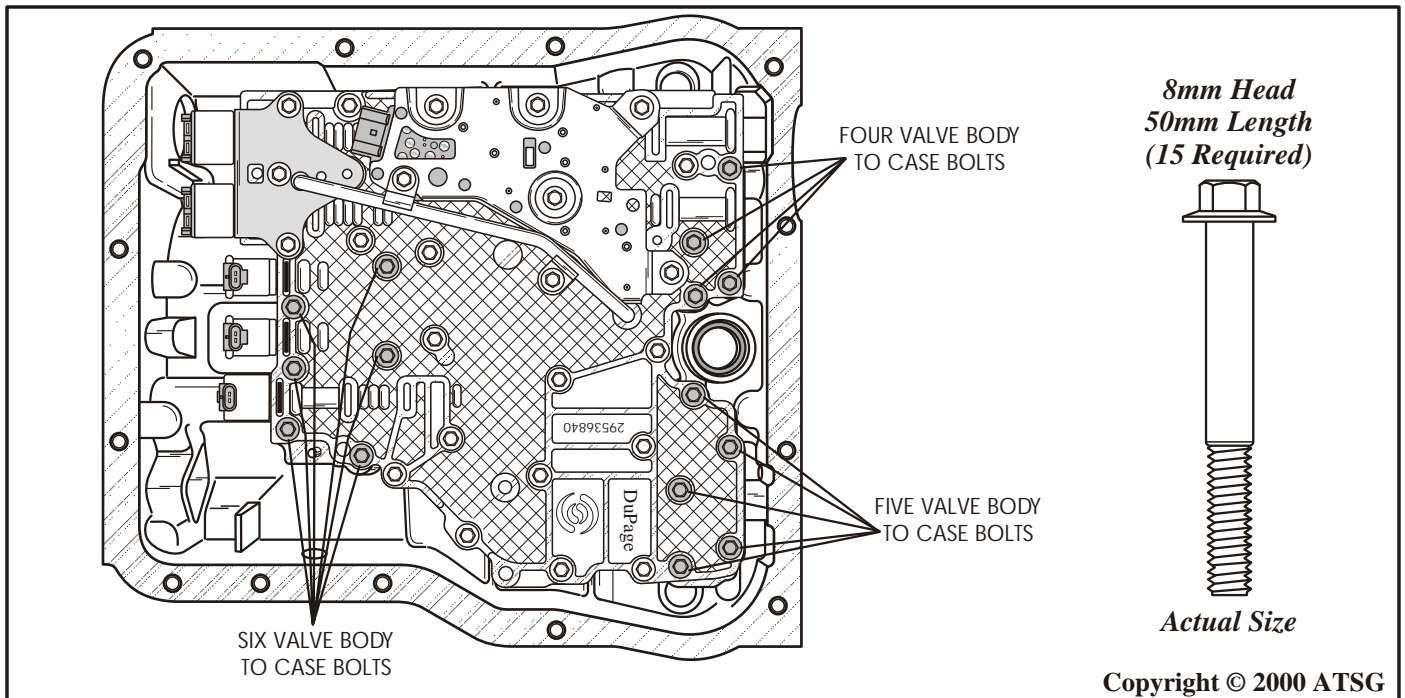

Figure 172
56. Install 15 valve body assembly to case bolts in the locations shown in Figure 172.